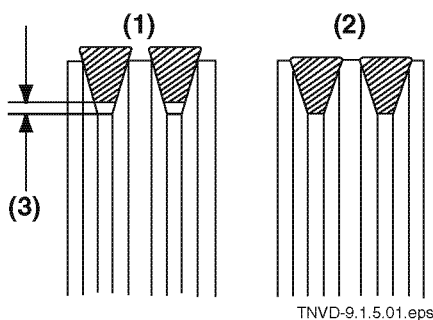

Figure 10-1
3. Check to ensure that there is clearance (**Figure 10-1, (3)**) between the inner surface of the belts and the bottom of the pulley grooves.